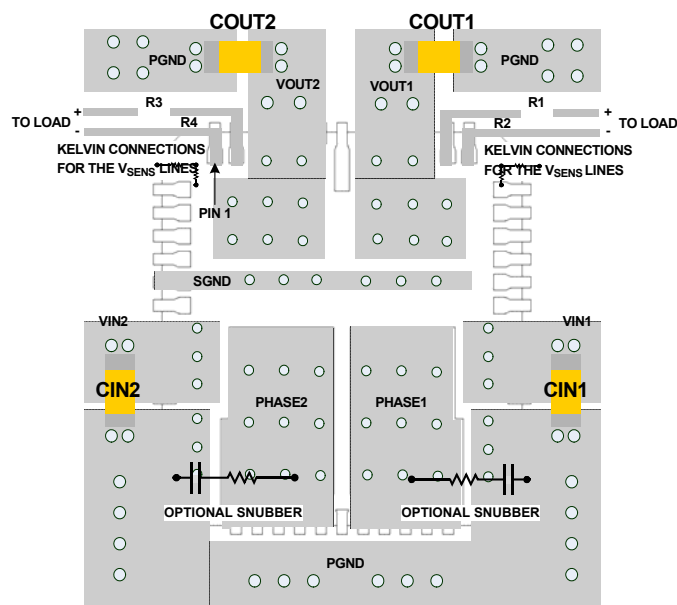

FIGURE 35. RECOMMENDED LAYOUT
To achieve stable operation, low losses, and good thermal performance, some layout considerations are necessary (Figure 35).
- Use a separated SGND ground copper area for components connected to signal ground pins. Connect SGND to PGND with multiple vias underneath the unit in one location to avoid the noise coupling, as shown in Figure 35. Don't ground vias surrounded by the noisy planes of VIN, PHASE and VOUT. For dual output applications, the SGND to PGND vias are preferred to be as close as possible to SGND pin.
- Optional snubbers can be put on the bottom side of the board layout, connecting the PHASE to PGND planes, as shown in Figure 35.